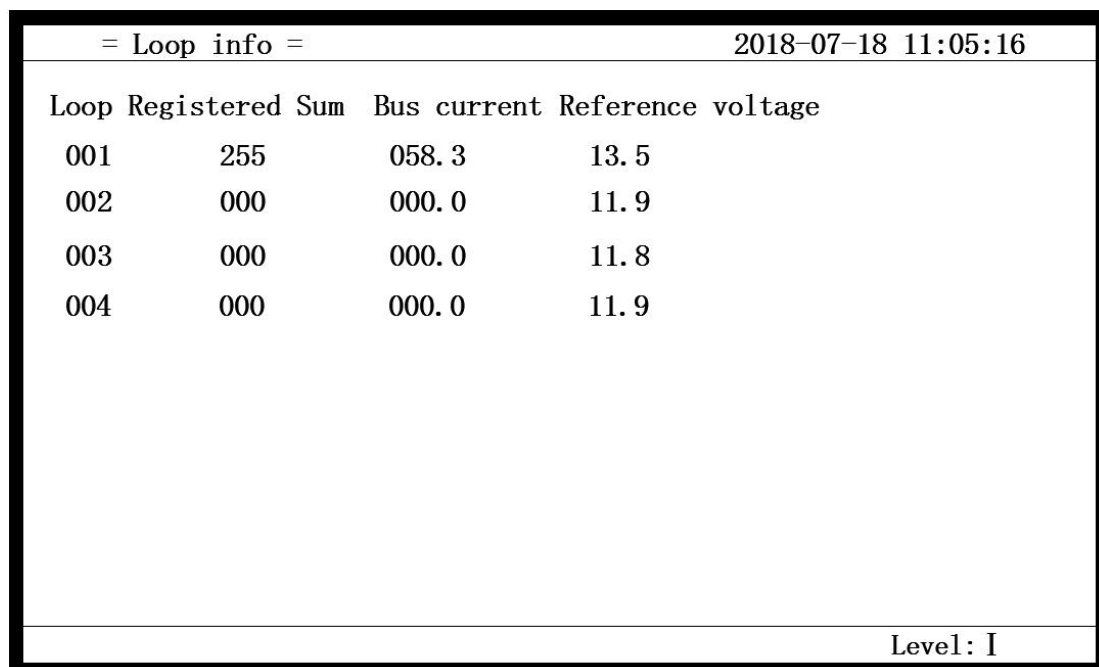

Fig. 5-3
- ✧ For details on each loop, press the corresponding number keys “1”, “2”, “3”, “4” to enter the corresponding loop information page (as shown in Figure 5-3).